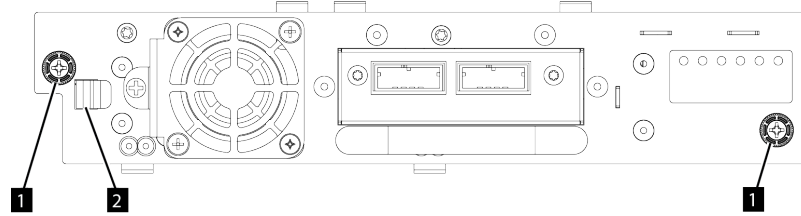

Figure 62. Unlocking the drive
- Loosen the blue captive thumbscrews (1 in Figure 62 on page 141) on the tape drive. Press the lock lever (2 Figure 62 on page 141) to the right and pull straight back on the tape drive handle while the bottom of the drive is supported to remove it from the unit.